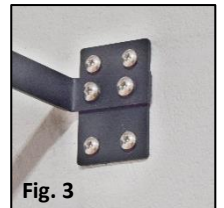

Fig. 3
3. Drill out a 10mm depth hole with a 10-12mm drill to create a recess to enable the support plate – L-brackets bolt heads to recess into the wall. Alternatively additional mounting screws can be used in all 6 holes (see fig. 3)
4. Drill out the 2-4 holes relevant to your chosen M5/6 screws (not supplied). If securing with 2 screws per support, it is recommended to use the outer top and inner bottom holes (see fig. 3).